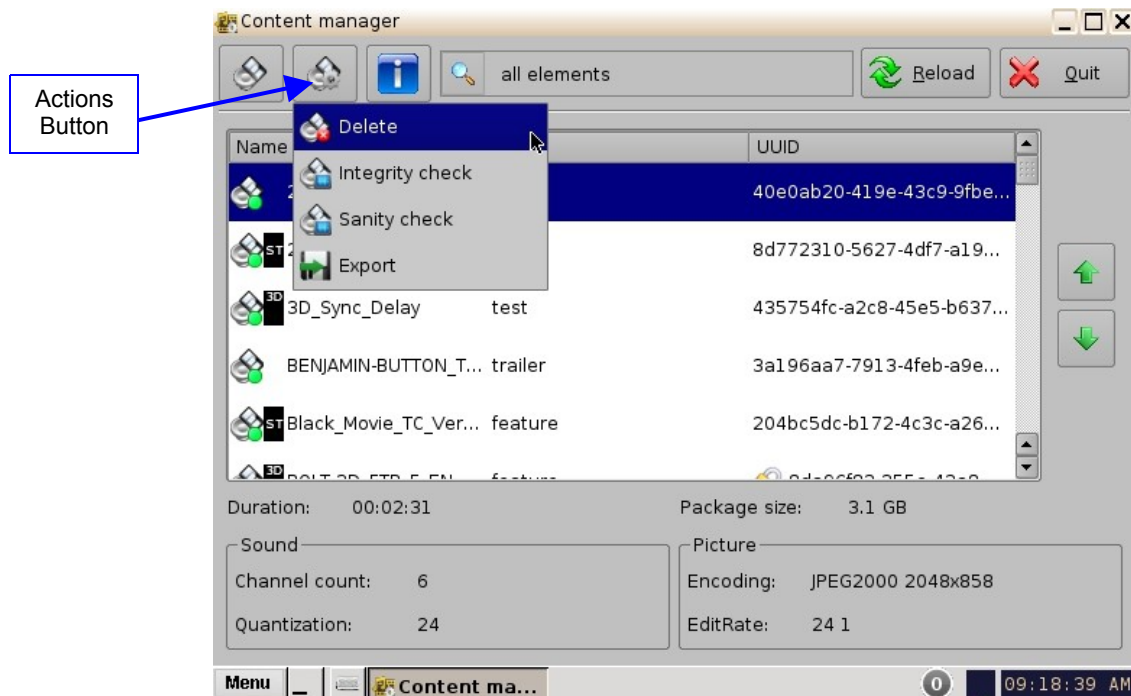

Figure 57: Content Manager Composition Playlists Tab
- The Actions button will allow the user to (Figure 57):